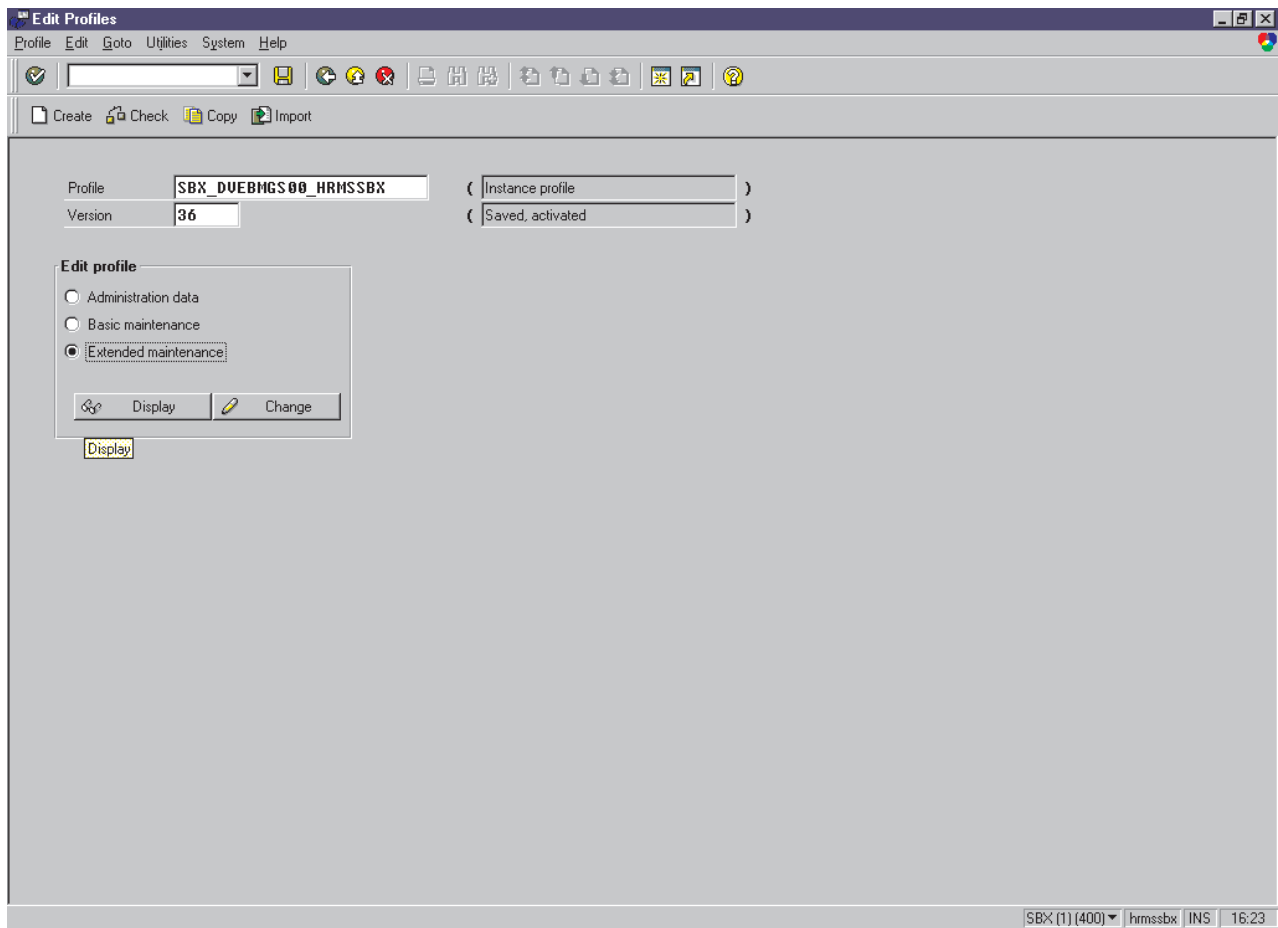

Figure 33. *print_profile* window
1. Enter RZ10 in the **OK-Code** field to access the **Edit Profiles** window shown in Figure 33 on page 86.